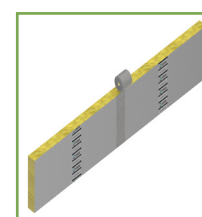

Fig 3. (Optional) Foil
- Apply 1STOP foil tape to vertical joints from top to bottom, to assist acoustic integrity, and to maintain integrity of the smoke barrier. (Fig 3.)